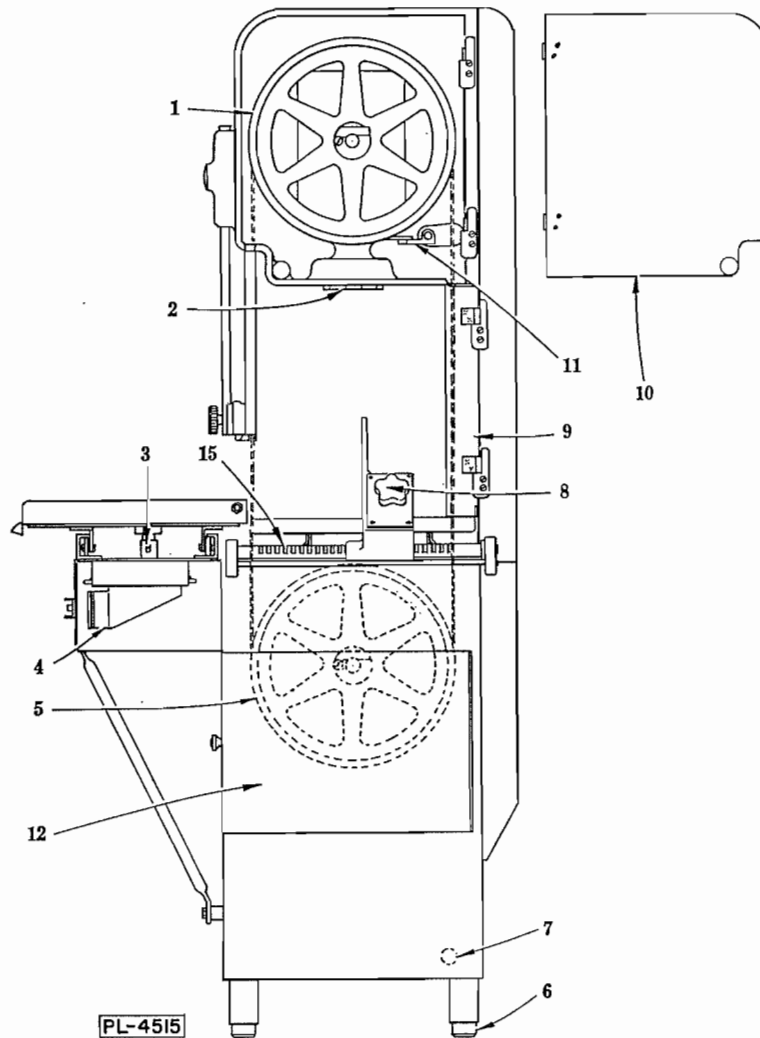
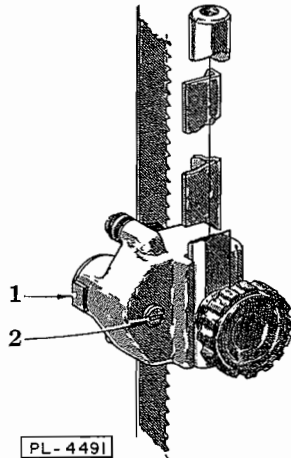
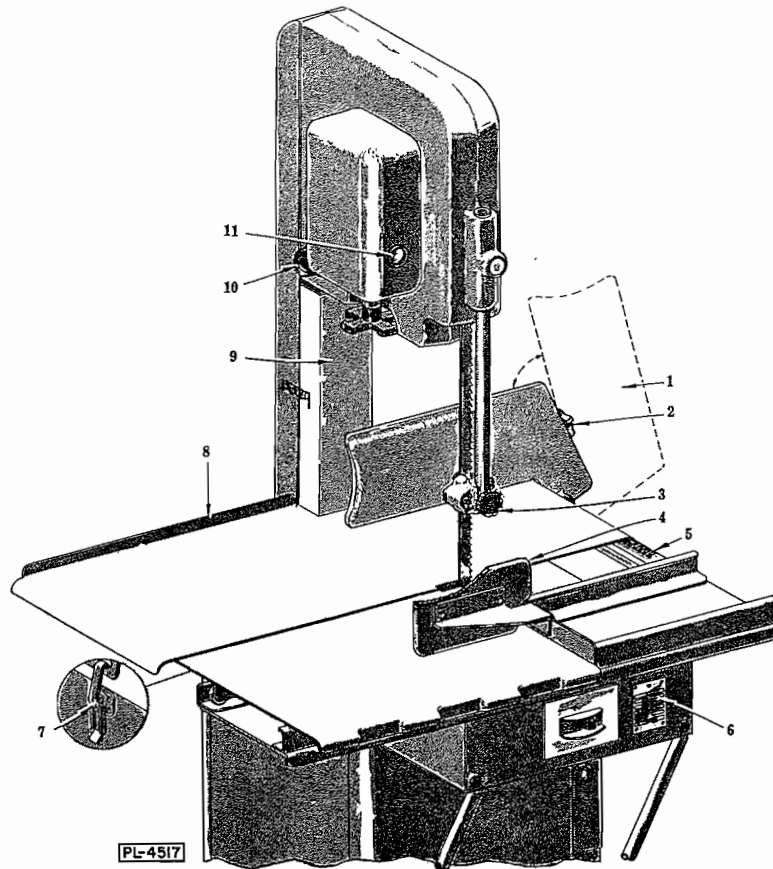

FIG. 1
FIG. 2
FIG. 4
(1) Place the machine in the location where it is to be used. Re-assemble the feet (6, Fig. 1). Place a spirit level on top of the base unit and adjust the feet in the legs so that the base unit is level from side to side and front to back.
(2) Remove the motor access panel on the left side of the machine. Assemble the base cover plate assy. (with tracks) using the two taper pins as locators. Next, assemble the front and rear table rests, using the taper pins as locators.
(3) Lower the upper blade pulley (1, Fig. 1) by giving the tension adjustment hand wheel (2, Fig. 1) a few turns to the left. Open the head door (10, Fig. 1), then unlatch and open the blade cover assy. (9, Fig. 1). Lift the hand knob (8, Fig. 1) and raise the gage plate (1, Fig. 4) to its stopped position. Lift out the lower front wiper unit (Fig. 3) and lower the upper guide unit (Fig. 2) to its lowest position. Place the saw blade over the upper blade pulley (1, Fig. 1) and lower blade pulley (5, Fig. 1). The teeth must point to the right and downward when viewed from the front as shown in Fig. 3. If they do not point downward, remove the blade, twist inside out and replace it on the saw. Make sure the blade is properly centered in the rear blade wiper (8, Fig. 3) and properly placed in the upper guide unit (Fig. 2). Turn the tension adjustment hand wheel (2, Fig. 1) to the right until the figure 3 starts to show in the tension indicator (11, Fig. 4). Give the upper blade pulley a few turns by hand so that the blade centers itself on
(4) Close the head door (10, Fig. 1) and column cover (9, Fig. 1).
(6) With the gage plate (1, Fig. 4) in the raised position (clear of the table area), assemble the table (8, Fig. 4). The table is positioned by the locating slots (9, Fig. 3) in the table rest angles of the base. Make sure the reinforcing angles of the table are outside the table rest angles of the base. Lock the table in place by the spring catch (7, Fig. 4).
(7) The carriage may be assembled from either side. When rolling the carriage into place depress the carriage stop (3, Fig. 1). After this stop is released, the carriage will then be retained from rolling off.
Check the data on the name plate (6, Fig. 4) to make sure that it agrees with your electrical supply before connecting to the power line. Make your installation connection from the power line directly to the switch. To avoid having conduit at the front of the machine, it is recommended that flexible (or rigid) conduit be connected through the electrical inlet hole in the base (7, Fig. 1). The conduit connector on the end of the motor lead conduit should be assembled in the knock-out hole in the switch box. Next, connect the motor leads to the switch.
(1) **UPPER GUIDE ASSEMBLY** (Fig. 2): Keep as low as the size of the work permits.
(3) **BUTT-END PUSHER** (4, Fig. 4): Use the pusher plate as described in section VI and it will be unnecessary to hold your hand near the running saw blade.
(4) **GAGE PLATE:** The end of the gage plate (1, Fig. 4) is shaped to give maximum support and protection at this critical point, and at the same time, facilitate the taking off of slices.
(1) Keep a small amount of grease in the six ball bearing rollers on the carriage.
(2) Apply a few drops of oil frequently to the gage plate rack (5, Fig. 4) and work the gage plate assembly back and forth a few times. (See cleaning instructions).
(3) For top operating efficiency have your local Hobart service man check this machine at least once a year.
- (1) Move the carriage to the left to the stop, then depress the stop and move the carriage a few more inches just beyond the bakelite guard.
- (2) Rotate gage plate to raised position.
- (3) Lower upper blade pulley by turning tension adjustment hand wheel to left.
- (4) Release table clamp (7, Fig. 4) and lift off the table (8, Fig. 4).
- (5) Open head door, unlatch and open blade cover assembly.
Fig. 4). Turn the upper blade pulley (1, Fig. 1) by hand to center the blade. Then turn the tension adjustment hand wheel until the indicator (11, Fig. 4) registers "4" at eye level. Close lower bakelite guard (1, Fig. 3). Make sure that front and rear lower blade wipers are on both sides of the blade.
At the back edge of the saw blade in the upper guide (1, Fig. 2) and the front lower wiper unit (4, Fig. 3) are special tungsten carbide blade back-up blocks (eliminating the old fashioned ball bearing back-up). These special blocks take the cutting thrust. The clearance between these blocks and the blade, with the saw running without load, should be approximately  $1/32''$ . Always check this dimension after changing blades. These back-up blocks should be adjusted to suit any variation in blade widths.
**NOTE:** Adjust the upper back-up block (1, Fig. 2) by turning screw (2, Fig. 2) and lower back-up block (4, Fig. 3) by turning the screw (2, Fig. 3).